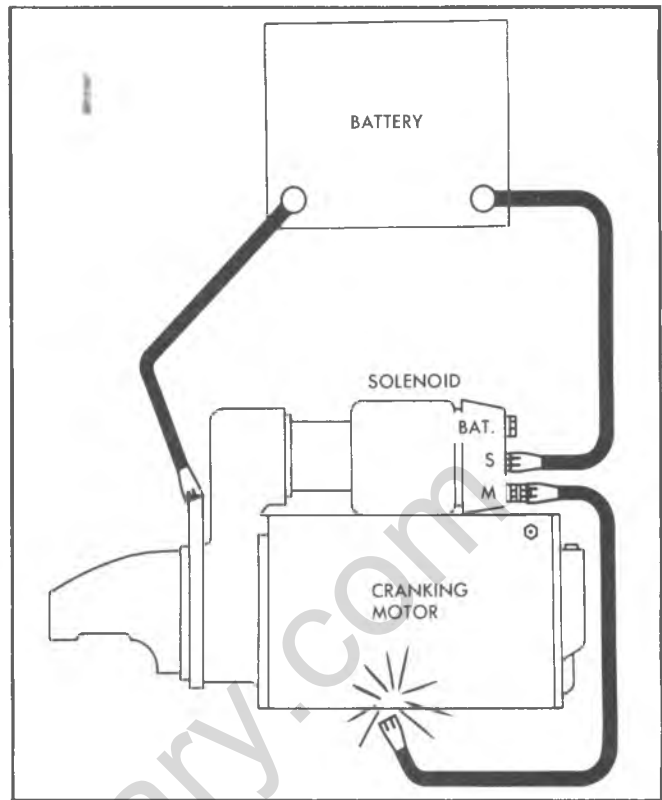

Fig. 11S -Circuit for Checking Pinion Clearance
1. Connect a battery, of the same voltage as the solenoid, from the solenoid switch terminal to the solenoid frame or ground terminal (fig. 11S).